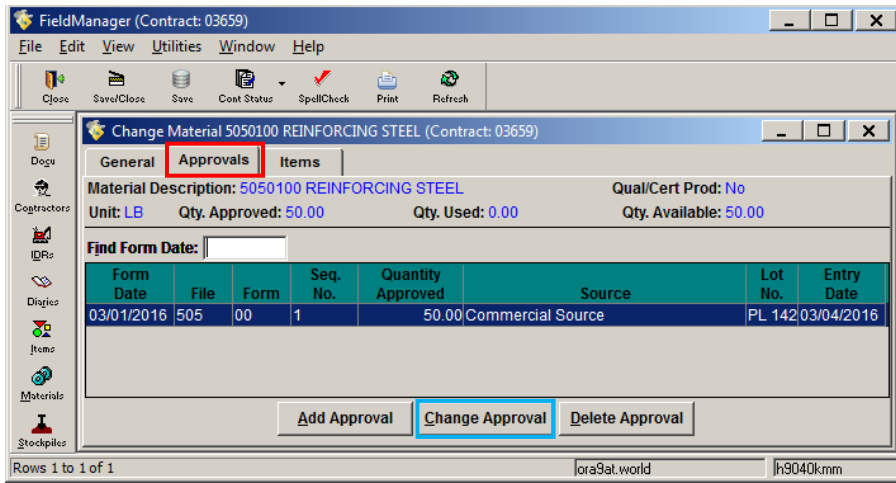

Figure 6-16. Change Material – Approvals Tab
- Click on the **Approvals** tab (Figure 6-16).
4. Select the Approval record and click the **Change Approval** button (See blue box in Figure 6-16).
4. Select the Approval record and click the **Delete Approval** button (See blue box in Figure 6-16).